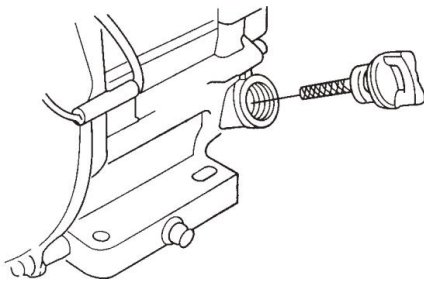

FIG.2
7.2.2 Remove the filler dipstick from the engine oil filler hole (FIG. 2) and wipe it clean.